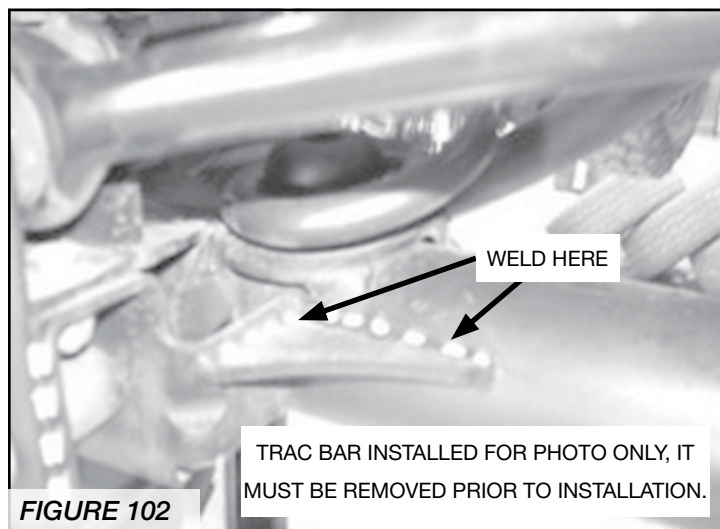

FIGURE 102
50. Locate FT50362 Gusset, position it onto the axle and the factory trac bar mount as shown in photo. Weld the gusset on the two sides. **SEE FIGURE 102.**